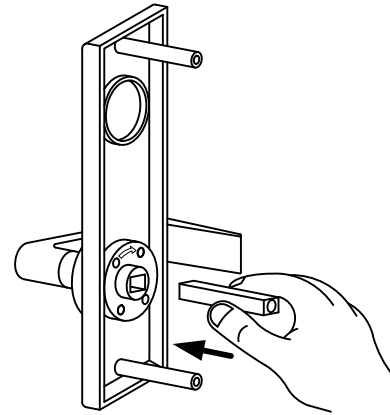

Fig 6-2
2. Insert spindle into hub of spring cage on outside trim (Fig 6-2).